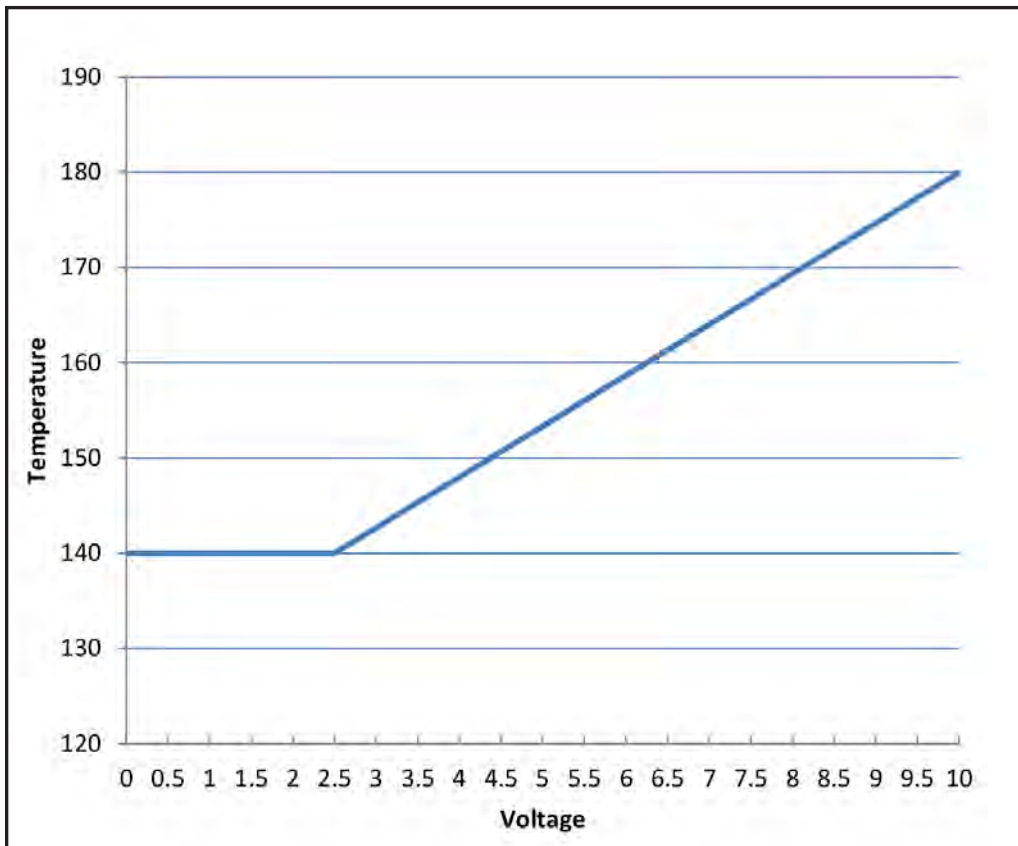

Figure 41. External Setp Point Example
- Using the default values for Boiler Max Set Point (180°F), Boiler Min Set Point (140°F), Demand Minimum (2.5VDC), Demand Maximum (10.0VDC), the unit will linearize the set point, as shown in **Figure 41**.